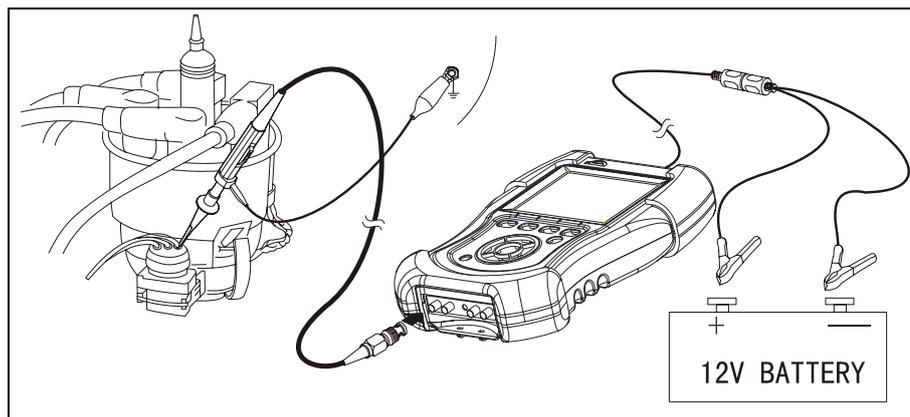

Fig. 5-9
When connecting KT600 to extension line for power supply, choose battery or cigar igniter as power supply according to the battery position of vehicle mode tested. All connecting diagrams in this users manual take power supply by battery as example. If choosing cigar igniter connector, confirm that cigar igniter has 12V battery voltage first. Connect test probe to Channel 1 (CH1 port), and then connect the small alligator clip on test probe to the negative of battery or grounding, pierce test probe into the signal line of distributor. Connecting diagram of Hall effect distributor trigger is shown as Fig.5-9.
1. Connect equipment according to Fig.5-9, switch on power supply switch of KT600;